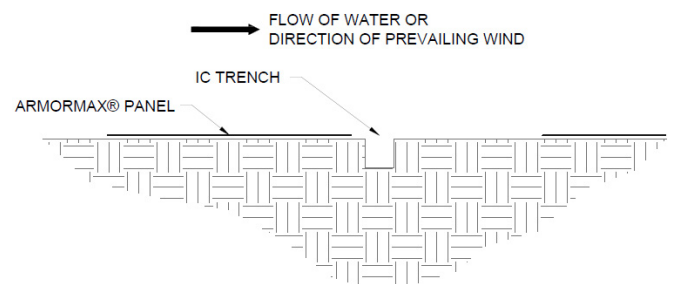
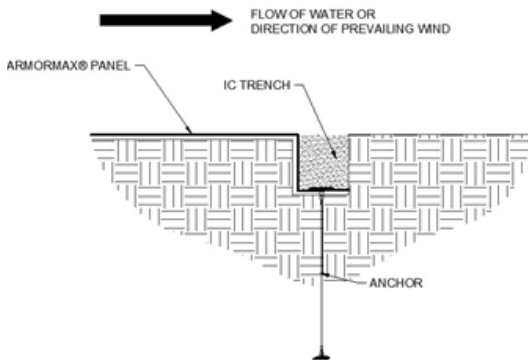

Figure 4: Initial Channel (IC) Trench Alignment
Figure 5: Initial Channel (IC) Complete
3. Lay the HPTRM panel on the upstream side of the IC trench (Figure 4). Place the panel edge in the IC trench, ensuring full coverage along the bottom of the entire IC trench with the **PROPEX** Armormax (Figure 5). Secure **PROPEX** Armormax with pins and anchors in the IC trench (Figure 5). Pins should be made of steel with a 0.20 in (5 mm) minimum diameter, having a 1.5 in (38mm) diameter washer at the head, and a length between 12 and 24 in (300-600 mm) with sufficient ground penetration to resist pullout.
5. Backfill and compact the IC trench (Figure 5).